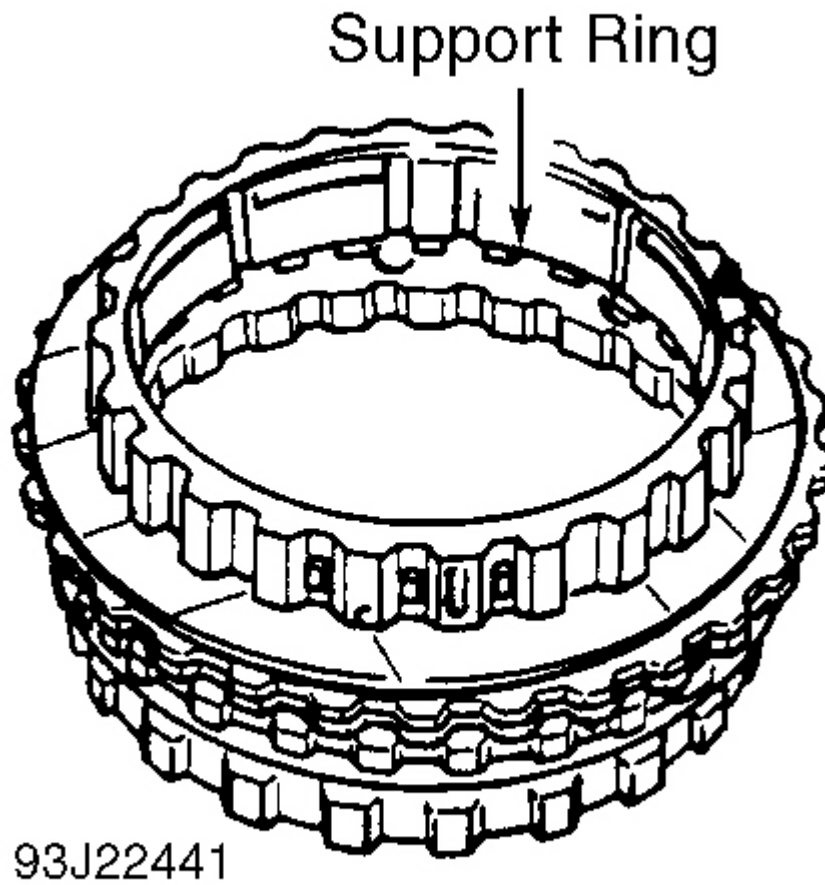

Fig. 46: Installing Support Ring
5. Place inner plate carrier on bench. Install remaining clutch plates to inner plate carrier. See **CLUTCH PLATE APPLICATIONS**. Insert top thrust plate with smooth side facing clutch plate. On early 1993, install support ring and snap it in place. See **Fig. 46**. On late 1993 and 1994 models, install the support ring with the step tabs facing up after installing thrust plate, friction plates and steel plates.